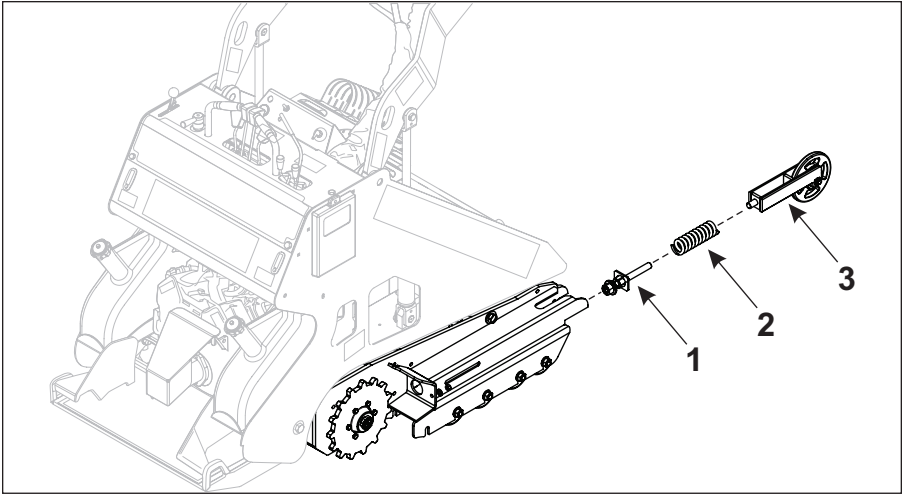

Figure 4-27 Track Drive Components Installed
4. Install tension bolt and thrust washer (Item 1, Figure 4-27) into track frame.
5. Install tension spring (Item 2, Figure 4-27) into track frame.
6. Install idler wheel (Item 3, Figure 4-27) assembly into track frame.